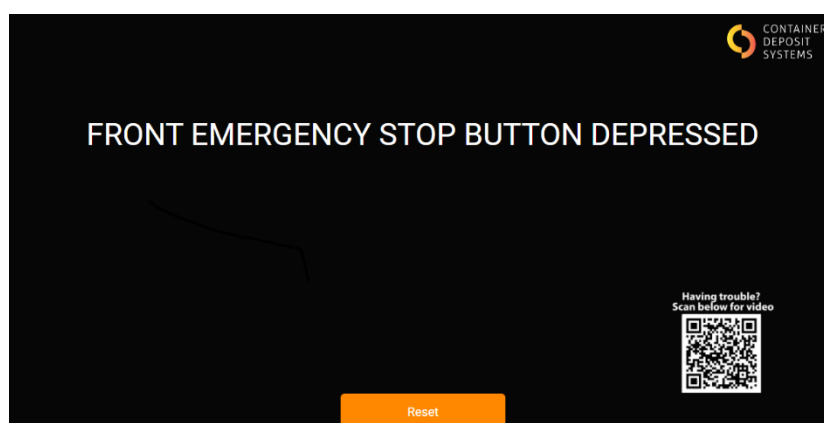

Figure 31. Front E-Stop Depressed
- The screen will display which E-Stop has been depressed as seen on Figure 31. Front E-Stop Depressed